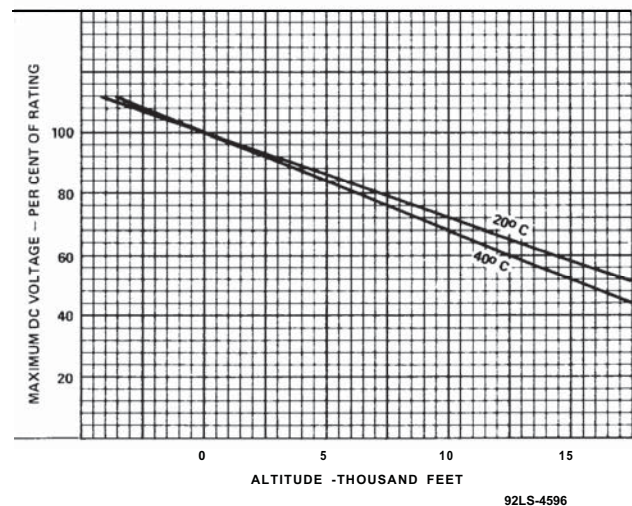

Figure 1 - Maximum DC Voltage with Respect to Altitude
9. The maximum voltage ratings must be modified for operation at altitudes higher than sea level and for temperatures in excess of 20°C in accordance with the curves of **Figure 1**. For altitude derating of the plate voltage, use the voltage difference between plate and grid No.2.